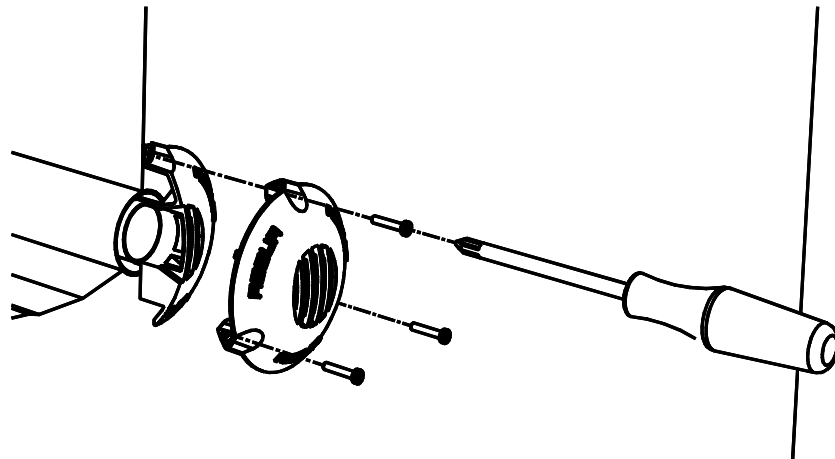

Figure 12 - Fixing the flue terminal
1. Attach the aluminium anti-draft flue terminal to the end of the flue pipe and mark the positions of the three fixing holes (see Figure 12). The terminal should be fitted so that vanes of the outlet grille are vertical.
3. Refit the terminal and secure in place by screwing the fixing screws into the wall plugs (see Figure 12).